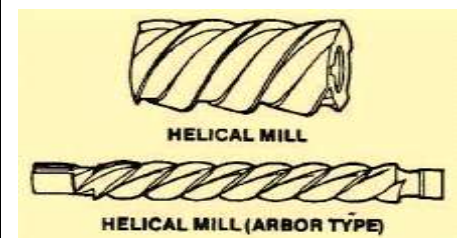

Figure 8-5: Helical Milling Cutters
**Helical Milling Cutters:** Are similar to the plain milling cutter, but the **teeth** have a helix angle of **45° to 60°**. The steep helix produces a shearing action that results in smooth, vibration-free cuts. They are available for arbor mounting, or with an integral shank with or without a pilot. This type of helical cutter is particularly useful for milling elongated slots and for light cuts on soft metal. See Figure 8-5.